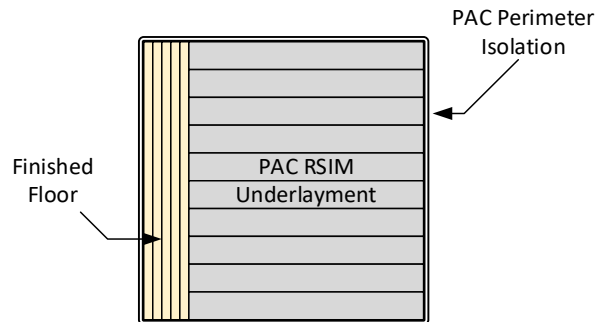

Figure 2
4. Place the PAC RSIM so that it is perpendicular to the subsequent installation direction of the finished flooring (see Figure 2).